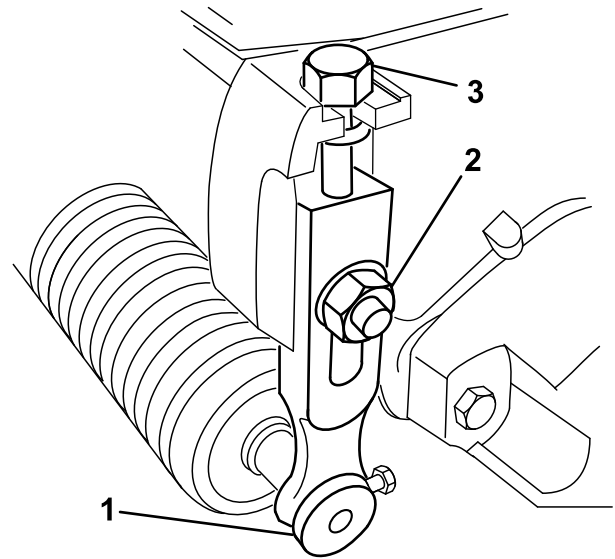

Figure 15
- Loosen the locknuts securing the height-of-cut arms to the cutting-unit side plates (Figure 15).